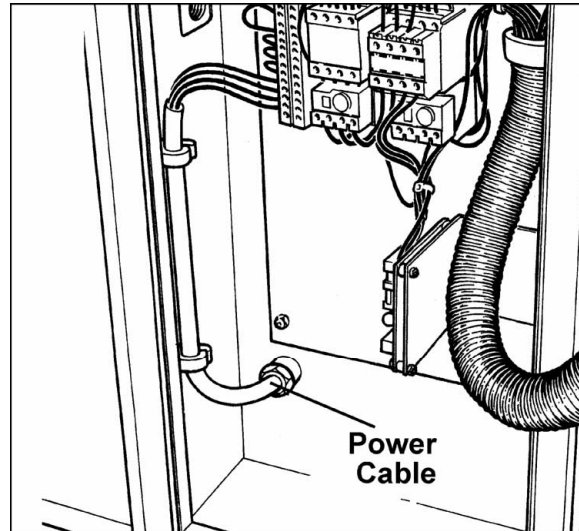

Figure 5
- Remove the electrical control panel cover with a hex wrench and introduce the cable, shown in Figure 5.